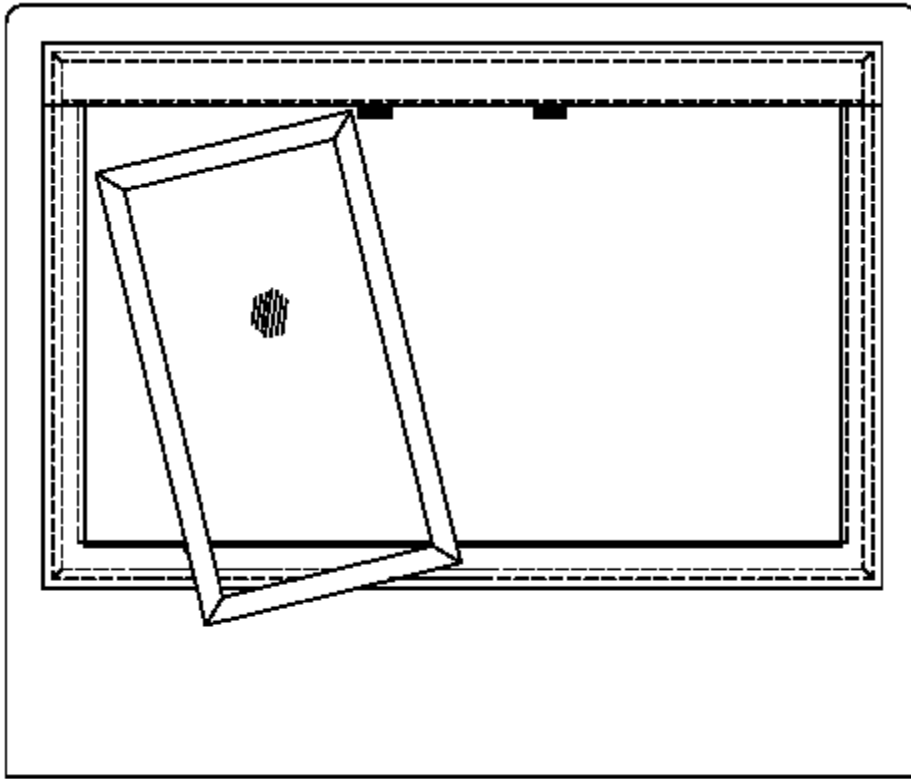

fig. 1
2. Hook the door in the right interior upper corner with the hooks of automatic closing mechanism and push toward the right. (fig.1)